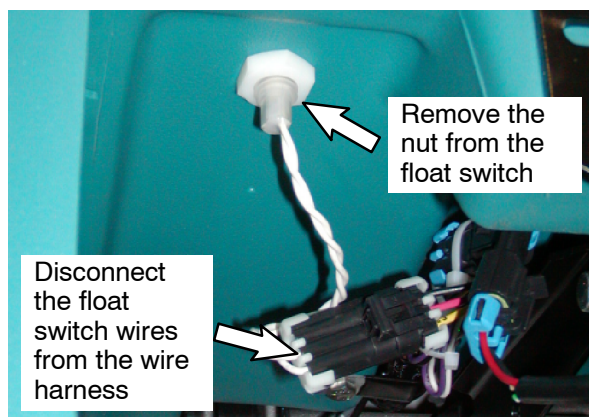
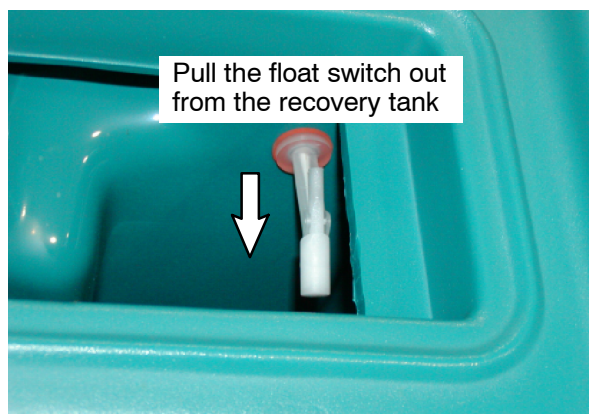

FIG. 1
FIG. 2
6. Disconnect the float switch wires from the wire harness. Refer to Fig. 1.
7. Remove the nut from the float switch and pull the float switch out from the recovery tank. **Do not** discard the nut since it is needed to reinstall the float switch. Refer to Fig. 1 and Fig 2.